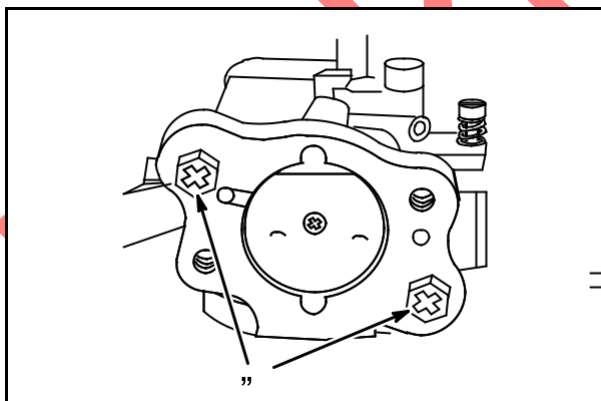

Fig. 10
Remove carburetor mounting screws (4) and carburetor, **Fig. 10**.